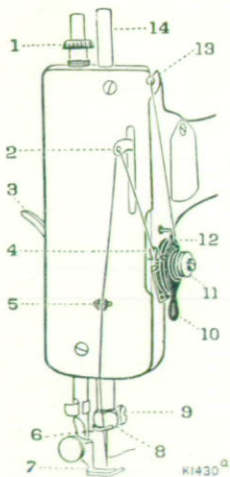
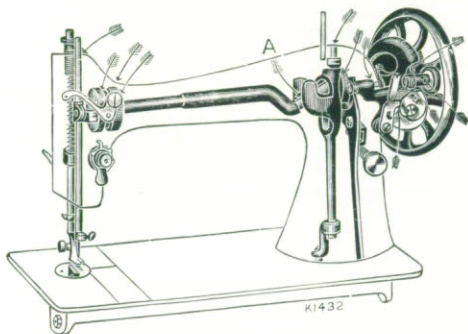

Fig. 5.
Fig. 14.
Tighten the balance wheel (see Fig. 3) and place a piece of material under the presser foot (7, Fig. 5). Then lower the latter by means of the lifter (3, Fig. 5). Now **turn the handle over from you** to work the machine, without its being threaded, until you are accustomed to guiding the material with the left hand.
(See Fig. 5)
Turn the latter over towards you until the thread guide (2) moves to the extreme right. Place a reel of thread on the spool pin and pass the end of thread through the notch at top of the face plate (13, Fig. 5); then thread the winder by passing the thread upward through the eyelet (1) and into the notch (2). Draw the
Raise the needle bar to its highest, lift the presser foot (7, Fig. 5), at the same time pressing the tension release (10, Fig. 5) with the thumb of the right hand. Move the material back and to the left, and sever the threads by passing them over the thread cutter above the presser foot. Leave a few inches of thread under and at the back of the presser foot.
For ordinary family sewing it is seldom necessary to change the pressure on the material. If sewing fine silk or flimsy material, lighten the pressure by giving the thumb screw (1, Fig. 5) two or three turns upwards. To increase the pressure, give the thumb screw a few turns downwards.
If used constantly, the machine should be oiled daily, while with moderate use, an occasional oiling is sufficient. A drop of oil applied at the points indicated by arrows in Figs. 14 and 15 is sufficient. The small plate in front of the machine and the larger plate at the back should both be turned up and oil applied to the parts exposed. **It is important that oil be applied to point "A," Fig. 14, when the take-up lever (2, Fig. 5) is at its lowest, and a little oil rubbed over the surface of the shuttle race.** There are also two holes in the hand attachment to which oil should be applied occasionally. When oiling, insert the oil can spout well into the holes.
The thread take-up spring (4, Fig. 5) is not broken.
Stitches Looping. See that the spring (4, Fig. 5) is not broken, that the upper and under tensions are equal (see page 11), that both shuttle and needle are properly threaded, that the thread is of good quality and of correct size for the needle (see table on inside of back cover).